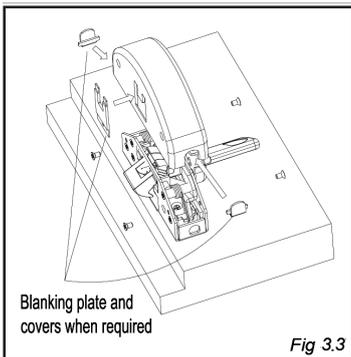

Fig 3.3
5. Push the Blanking covers (Item F) into the recesses on the main box cover and refit the cover to the main box with the 4 screws removed earlier. See **Fig. 3.3**